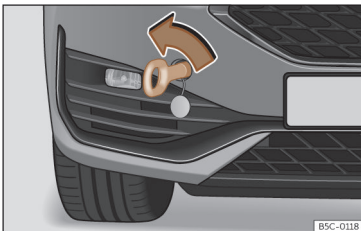

Fig. 216 Right side of the front bumper: towline anchorage screwed in.
- Screw the towing eye in the housing by turning it to the maximum **anticlockwise** >>> **Fig. 216**, >>> . Use a suitable object that can completely and securely tighten the towing eye in its housing.